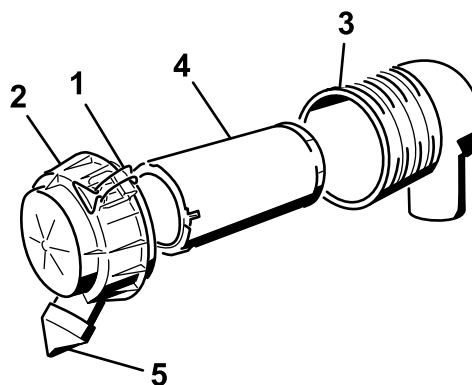

Figure 26
3. Release the latches on the air cleaner and pull the air-cleaner cover off the air-filter body (Figure 26).
6. Gently slide the filter out of the air-filter body (Figure 26).
8. Carefully install the filter (Figure 26).
9. Install the air-cleaner cover with the dust cap oriented downward and secure the latches (Figure 26).